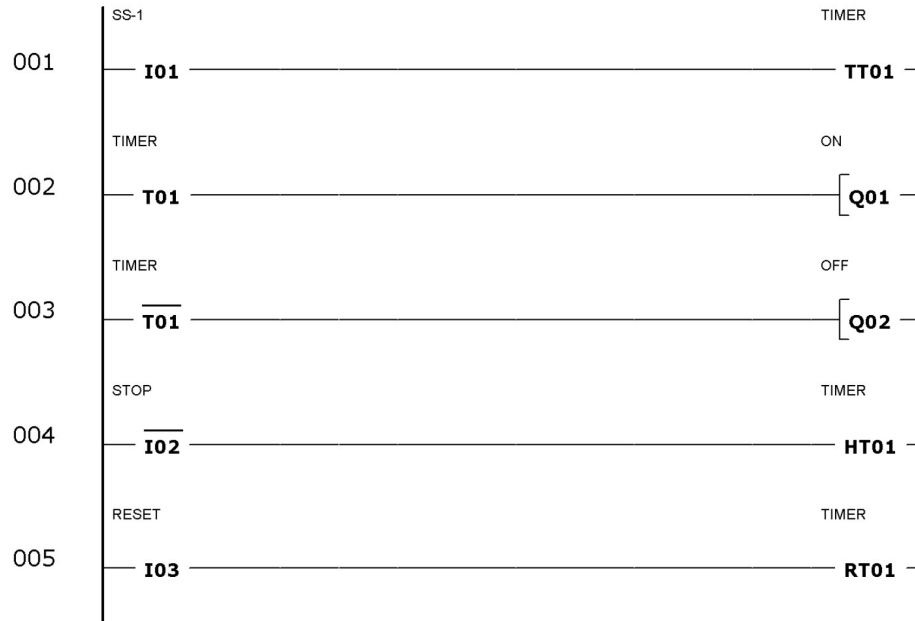

Figure 1-25. Ladder program of the PLC timing relay circuit.
Modify your PLC program to include a reset coil (RT1) and a stop coil (HT1) as shown in the ladder program of Figure 1-25.
2. In Figure 1-25 program, which contact replaces the control relay (NO) holding contact of the hardwired circuit?
3. In the Figure 1-25 program, which contact replaces the timing relay (NO) contact of the hardwired circuit?
4. In the Figure 1-25 program, why cannot both pilot lights be on at the same time?